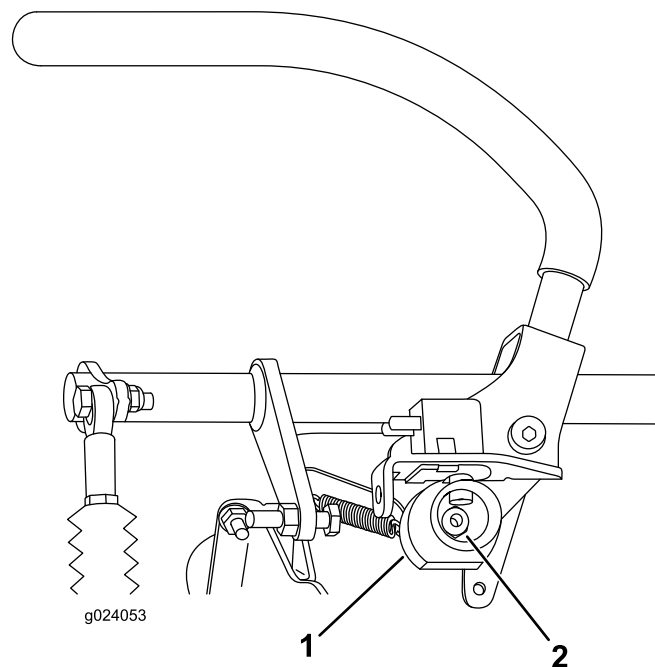

Figure 78
7. Loosen the nut holding the cam (Figure 78).